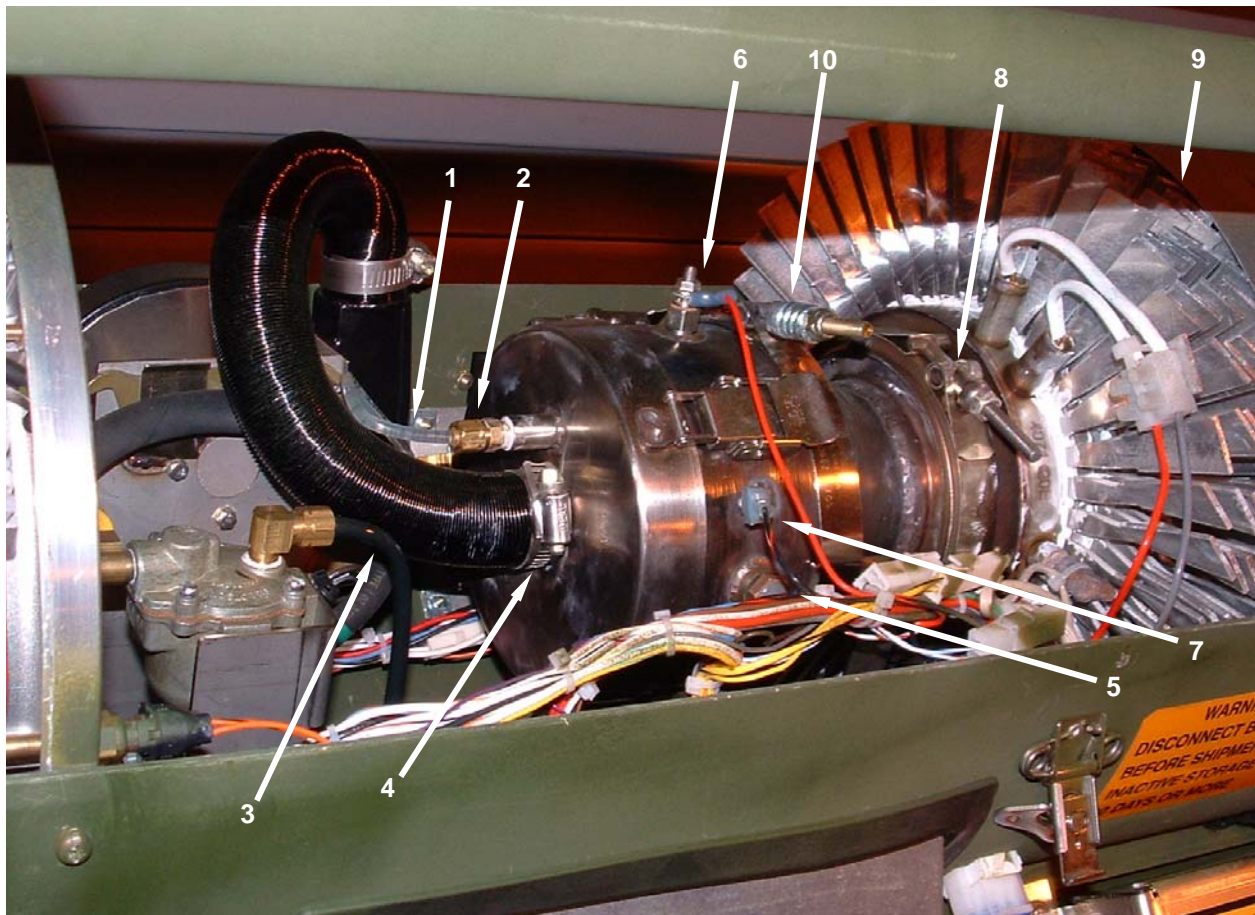

Figure 1. Remove Burner Assembly.
2. Disconnect fuel line (**Figure 1, Item 1**) at fitting (**Figure 1, Item 2**). Carefully collect fuel which may spill from the hose. Wipe up any spilled fuel.
3. Disconnect combustion air inlet duct (**Figure 1, Item 3**) by loosening hose clamp (**Figure 1, Item 4**) and sliding the clamp up the duct. Pull the combustion air inlet duct off the burner assembly air inlet and move off to the side.
4. Tag and disconnect wires from flame sensor (**Figure 1, Item 5**) and glow plug (**Figure 1, Item 6**).
5. Tag and disconnect the ground wire (**Figure 1, Item 7**).
6. Loosen the TEG clamp (**Figure 1, Item 8**), and slide the clamp free of the TEG (**Figure 1, Item 9**).
7. Loosen the mounting clamp (**Figure 1, Item 10**), and slide the clamp free of its mounting bracket.